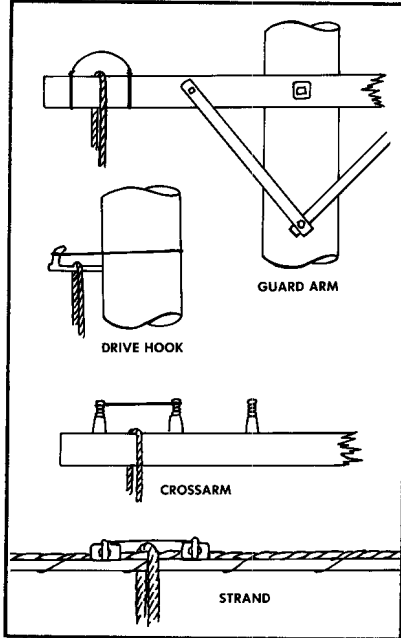

FIGURE 1. Temporary Guide Loop—Pole
2.09 If conditions could cause the handline, or the drop wire to which it is attached, to become disengaged from a drive hook or crossarm, or may slide along the strand or guard arm while doing the work, the handline or drop wire shall be enclosed with a temporary guide loop. This loop shall consist of a short length of wire or rope placed over the handline or drop wire, with the ends of the guide securely tied as follows (Figure 1):